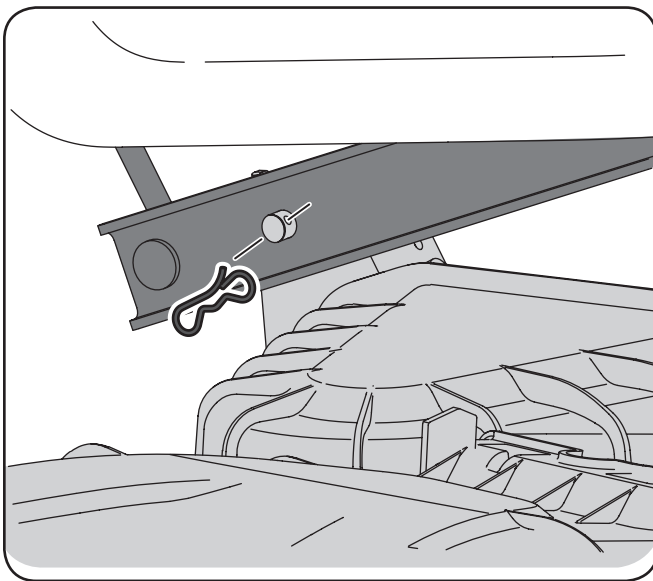

Figure 7-3
- Looking at the cutting deck from the left side of the tractor, locate the bow pin on the rear left side of the deck. See Figure 7-3.
- Remove the pin and slide the deck pin out of the deck lift arm. See Figure 7-3.